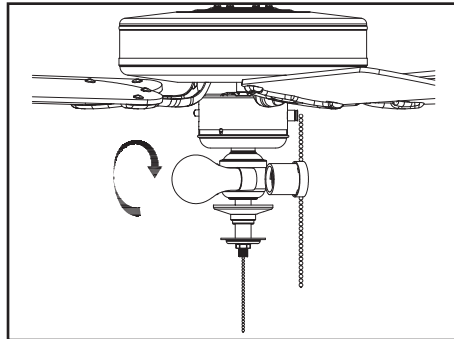

Figure 14
5. Install the two LED lamps (provided) into the light fitter sockets (Figure 14).